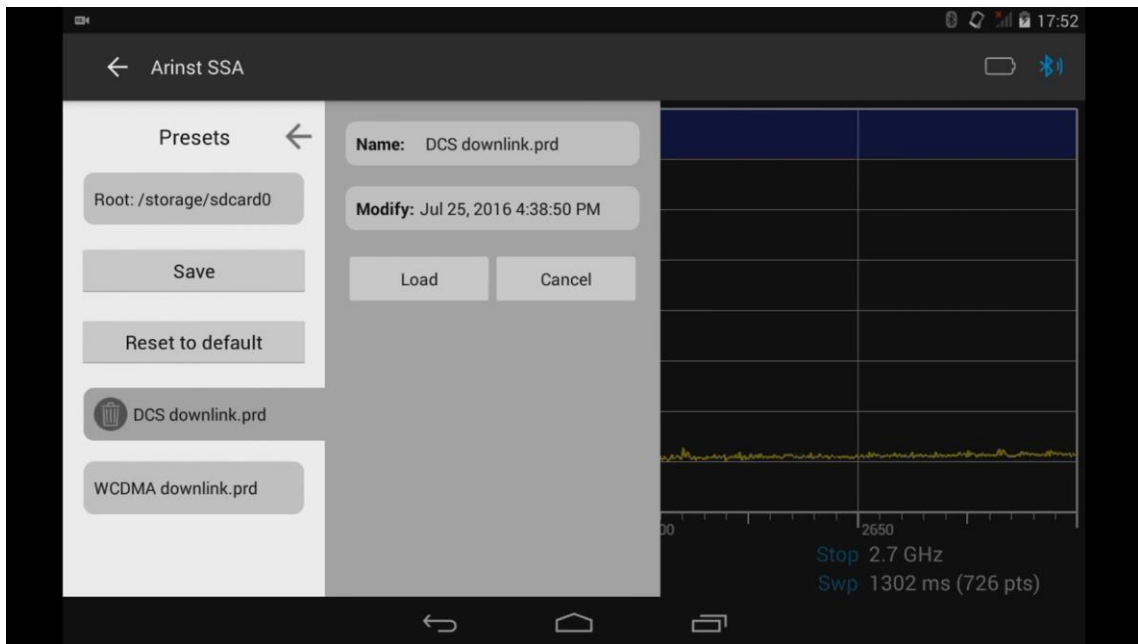

Figure 32 – Loading user settings of frequency parameters
- by loading custom settings from the **Presets** menu (Figure 32).